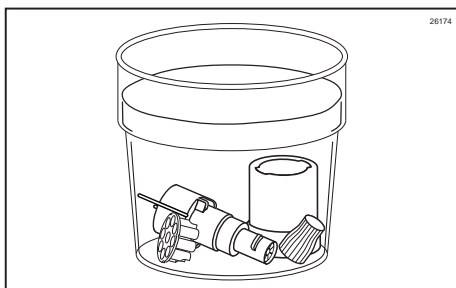

Figure 59
7. Place the items in the approved sanitizer solution. Allow these items to soak throughout the upcoming processes. (See Figure 59.)